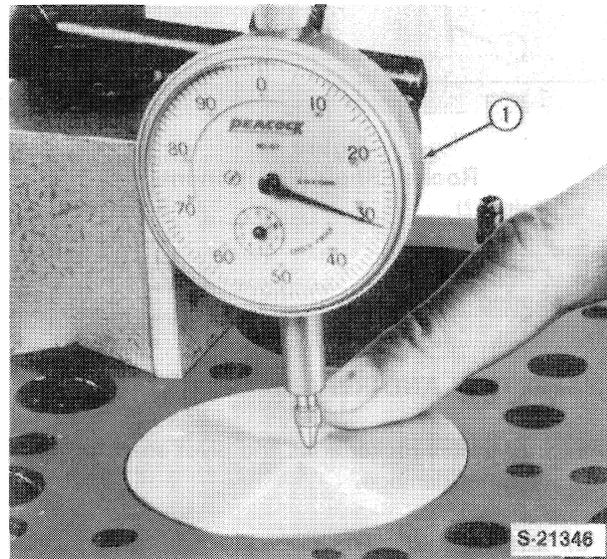

Figure 47
1. Position each of the pistons in turn at top-dead-center. Using a dial indicator determine the distance each piston protrudes above the face of the block while holding a downward pressure on the piston as shown, Figure 47.